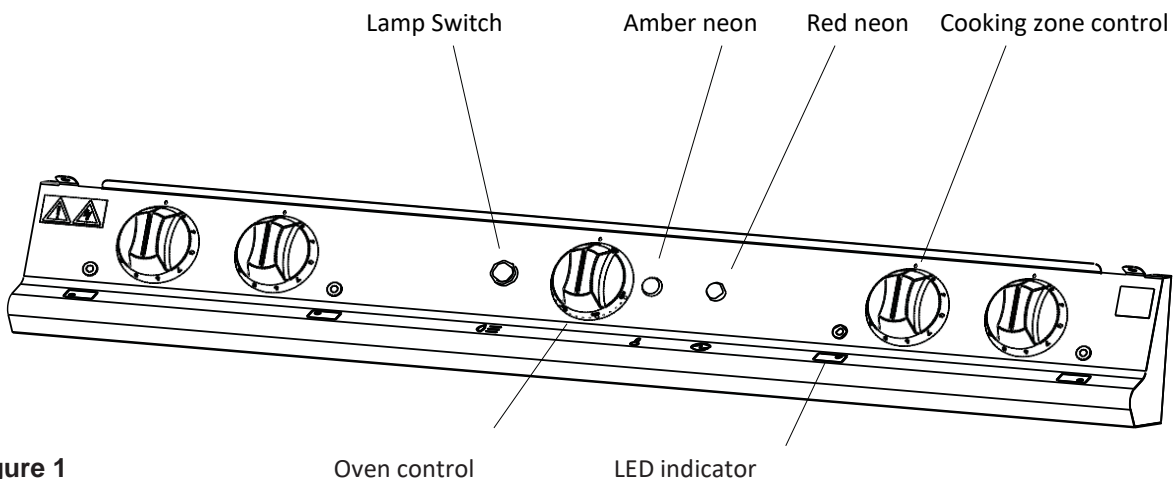

Figure 1
3.1 CONTROL PANEL (Refer to Figure 1)